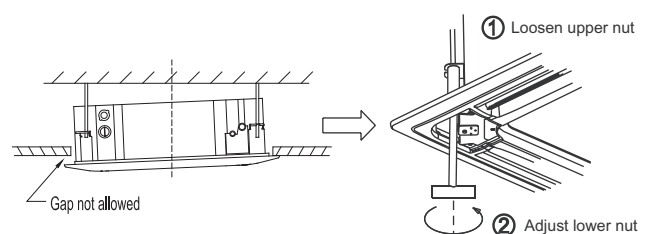

Fig.1-13
- If the gap between the panel and ceiling still exists after fastening the screws, the height of the indoor unit should be modified again. (Refer to Fig.1-13)
- You can modify the height of the indoor unit through the openings on the panel's four corners, if the lift of the indoor unit and the drainpipe is not influenced (Refer to Fig.1-13).